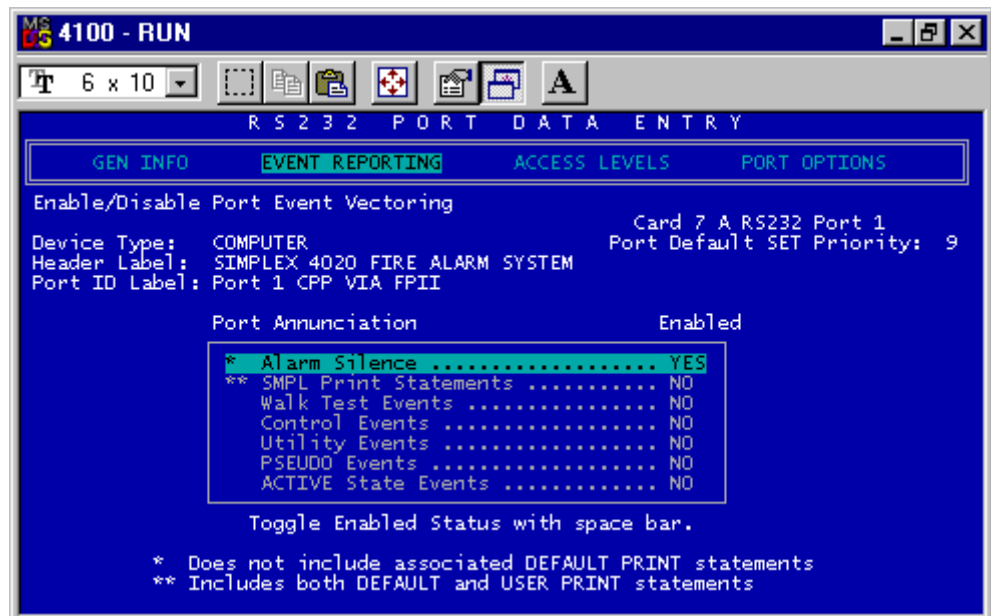

Figure 14. Event Reporting Option
- Choose **Computer** for device type, and type in a header label and port ID label. When done, use the arrow keys to select the **Event Reporting** option (see Figure 14).
- Using the space bar to toggle between selections, enable Fire Alarm, Trouble, Supervisory, and Priority 2 Alarm Events as well as System Reset and Alarm Silence by choosing YES. Leave the remaining event types disabled. See Figure 14.